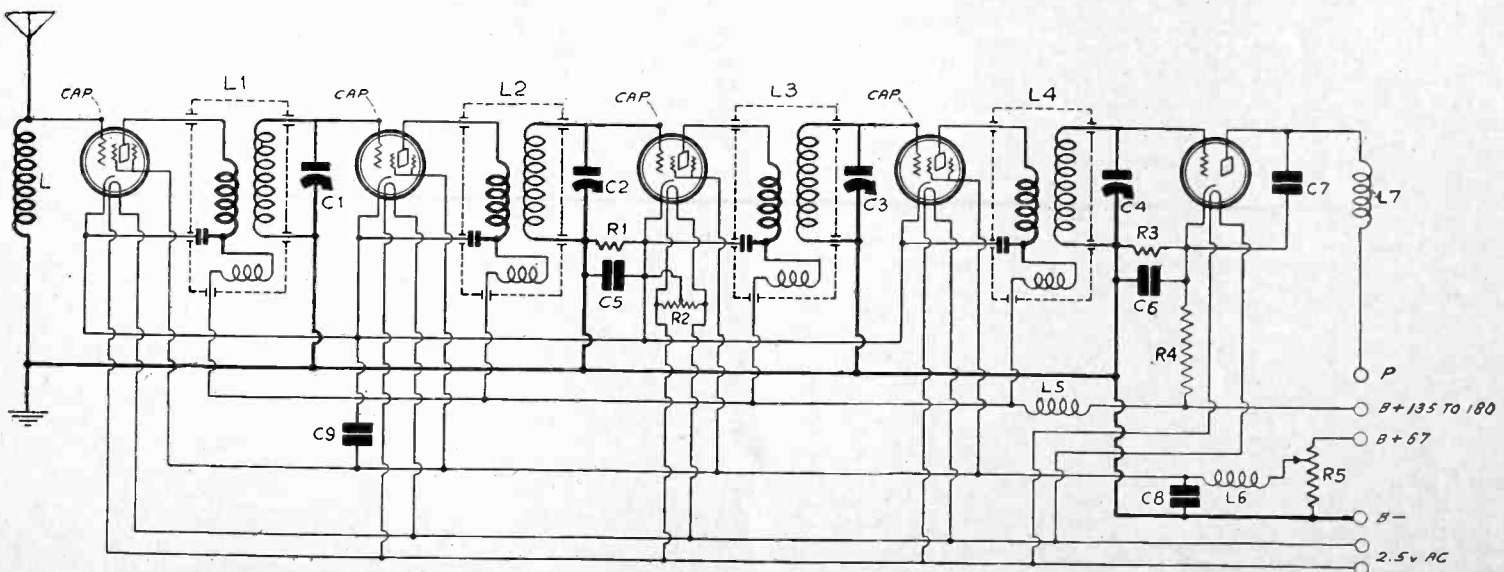

FIG. 4
(1)—Detector voltage. The diagram of the MB-29 as printed herewith, Fig. 4, does not show any particular detector voltage. But a card that accompanies the parts for the MB-29 reveals that this voltage should be 135 volts. The B post of the input to the power amplifier therefore takes 135 volts, and while it is a fact that reception will be obtained even with lesser or greater voltage, it is inadvisable to use less, as then the detector is worked as a simple negative bias detector, instead of as a power detector (which means high plate voltage and high negative bias). Power detection affords a greater signed voltage handling capacity of the detector tube and should be used by all means. The bias is taken care of automatically, by resistors in the MB-29, but the amount of bias depends on the amount of plate and bleeder current. Do not use more than 135 volts here, as a resistor would heat up unduly.